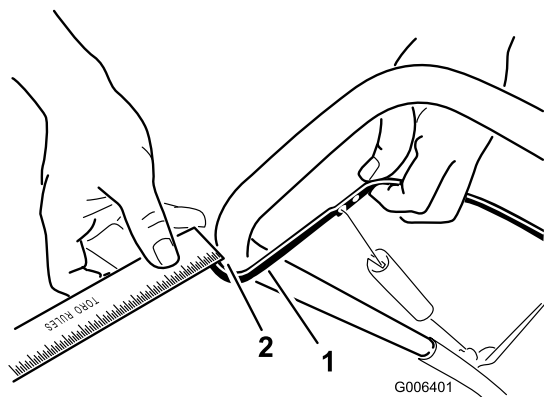

Figure 26
Move the control bar back toward the handle to remove the slack in the control cable (Figure 26).
Note: Ensure that a 1/16-inch to 1/8-inch (2 mm to 3 mm) gap exists between the control bar and the handle (Figure 26).
- Move the Z-fitting to a higher or lower hole on the adjuster link as needed to obtain the 1/16-inch to 1/8-inch (2 mm to 3 mm) gap between the control bar and the handle (Figure 26).